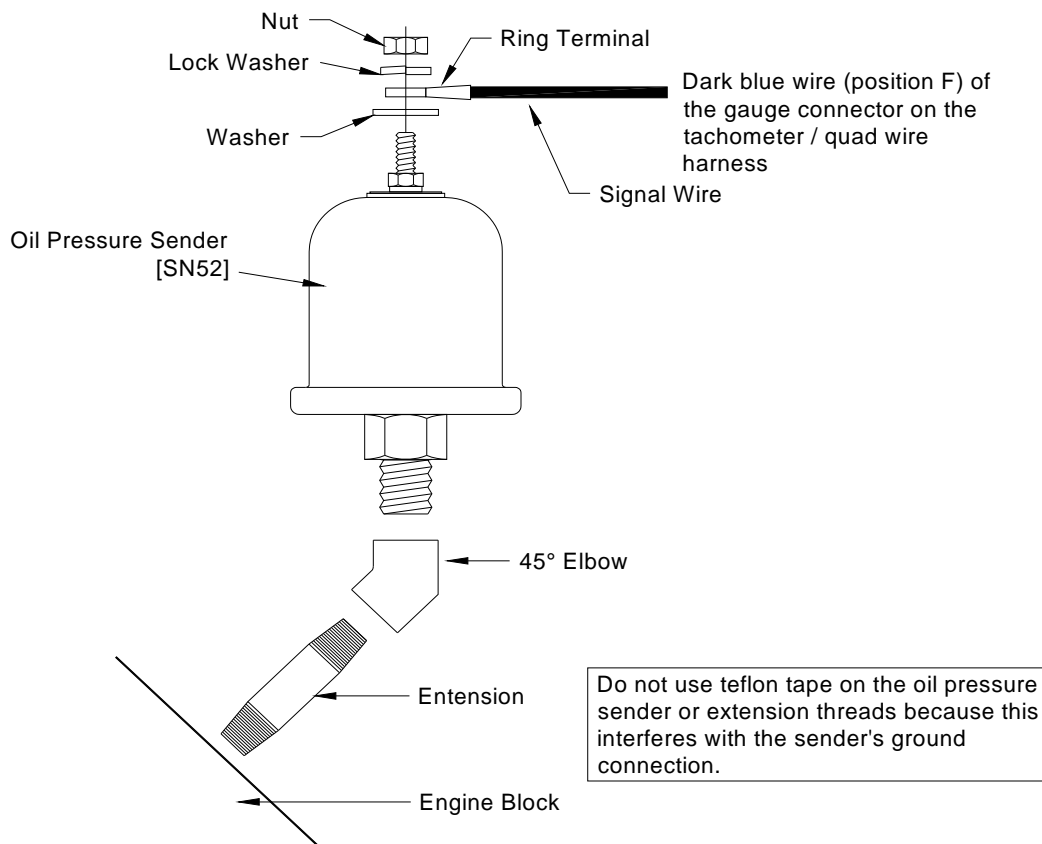

Figure 5: Oil Pressure Sender Wiring
- 7) Connect the **dark blue** wire (position F) of the gauge connector on the tachometer / quad wire harness to the supplied Classic Instruments oil pressure sender. (*see figure 5*)